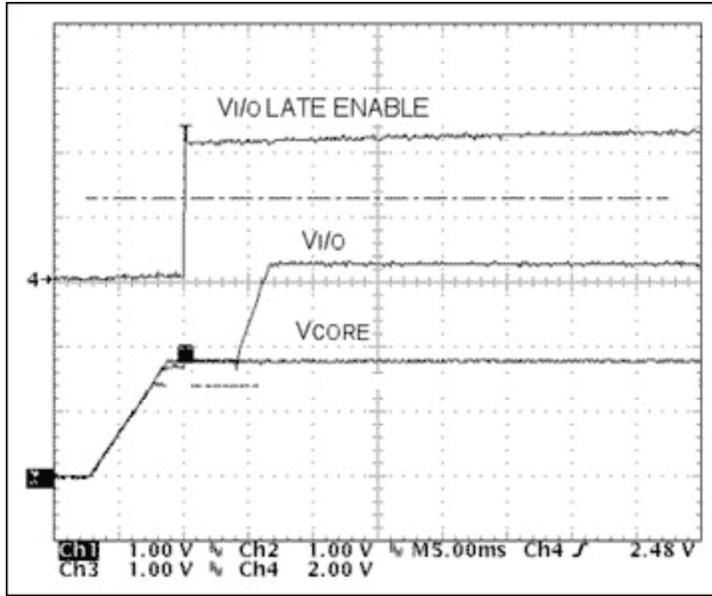

Figure 5. Startup operation,  $V_{CORE}$  enable precedes  $V_{I/O}$  enable.
5.  $V_{I/O}$  precedes  $V_{CORE}$ , and begins to rise at a rate determined by the I/O regulator characteristics. NOTE: Neither  $V_{I/O}$  nor  $V_{CORE}$  should rise at a rate exceeding  $6.6V/\mu s$ .  $V_{CORE}$  rises with  $V_{I/O}$  because the two regulator output lines are connected via the MOSFET. During this phase, the I/O regulator output supplies both the I/O and CORE loads and backdrives the CORE regulator output; both voltages are equal. [If  $V_{CORE}$  precedes  $V_{I/O}$ ,  $V_{CORE}$  backdrives the  $V_{I/O}$  supply; both voltages are equal. Refer to **Figure 5**.]